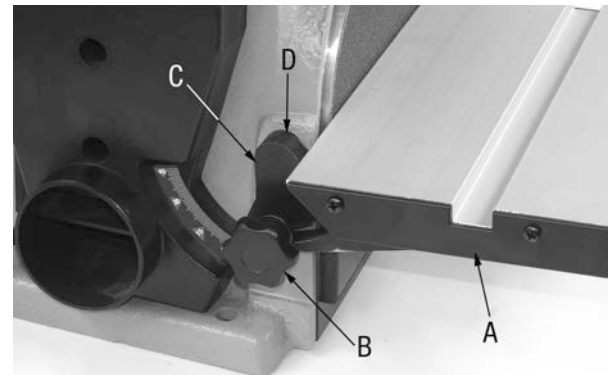

Figure 5
1. Locate table assembly (A) Fig.5, washer and lock knob (B) among loose parts.
2. Position table support (C) in the corresponding hole (D) on the side of base.
3. Place washer on threaded shaft of lock knob (B) and insert through table support, tighten lock knob to secure table.
2. Remove table assembly (A) Fig.5 by removing table lock knob and washer (B).